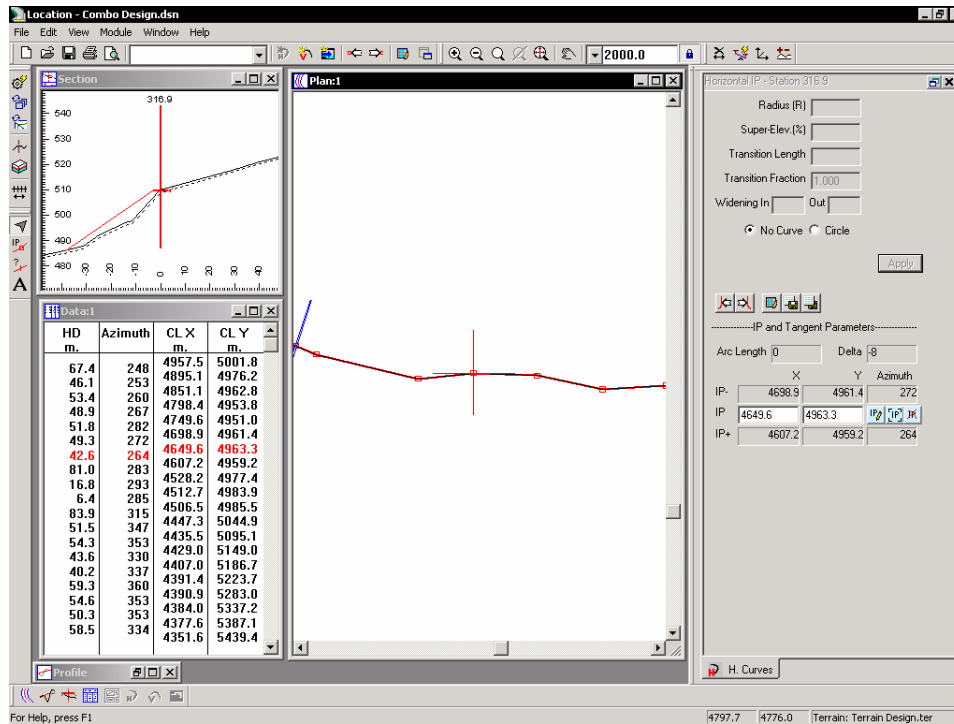

Figure 3.22: A New Screen Layout
14. Size and move the windows until the screen looks similar to Figure 3.22.